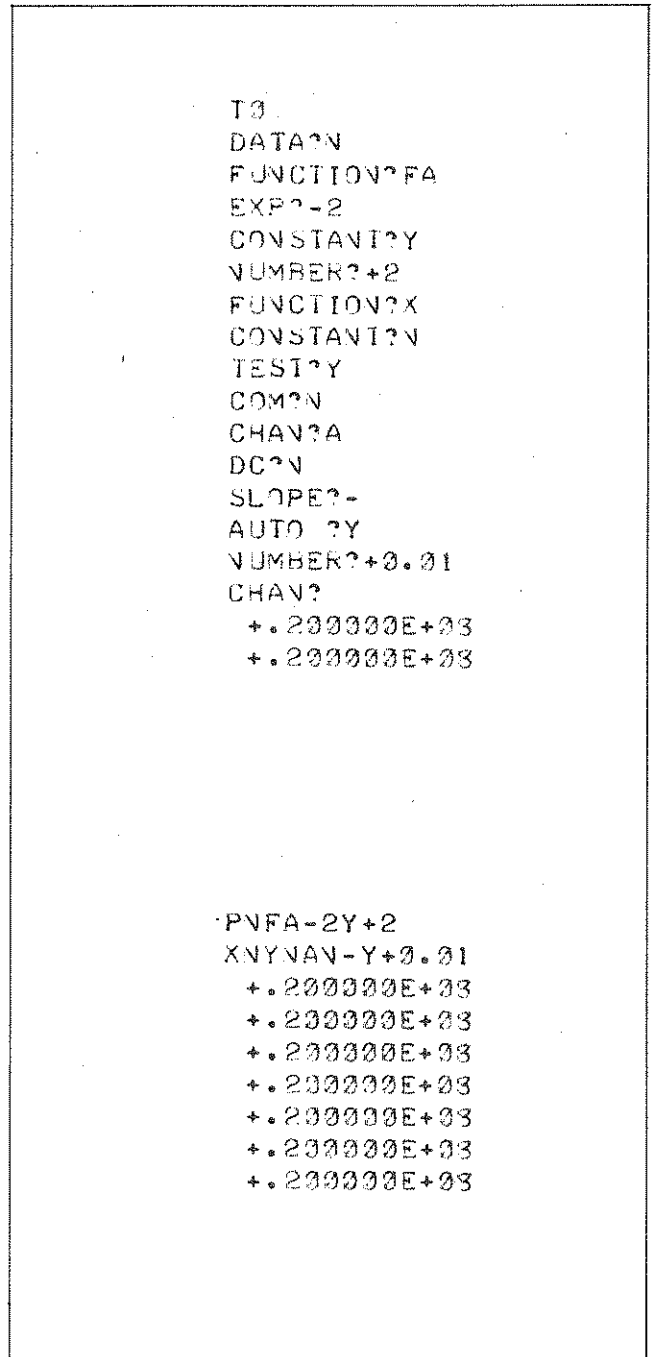

Figure 3.7 - Data Readout
3.14.2 Operation from a remote terminal consists of a two way conversation between the 9000 and the terminal (the 9000 operates in a full duplex mode). With a numeric address used to call up the instrument, the 9000 performs a sequence of questions to which the operator responds to complete the programming cycle. With an alpha address used, the 9000 simply waits for the correct sequence of program data. This sequence is shown in table 3.15. A sample of each type of operation is shown in figure 3.7. In this example, the alpha/numeric address used is O/P.